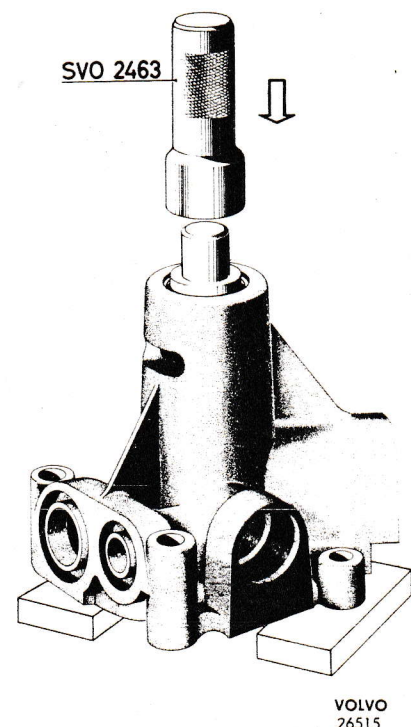

Fig. 78. Removing the shaft and impeller
3. Place the pump in a press. Fit tool SVO 2463 on the bearing outer race and press out the shaft, bearing and impeller. Fig. 78.
1. Press down the shaft and the bearing in the housing by using tool SVO 2463 in a similar way to that shown in Fig. 78 so far that the lock wire can be inserted into its groove. Fit the lock wire.